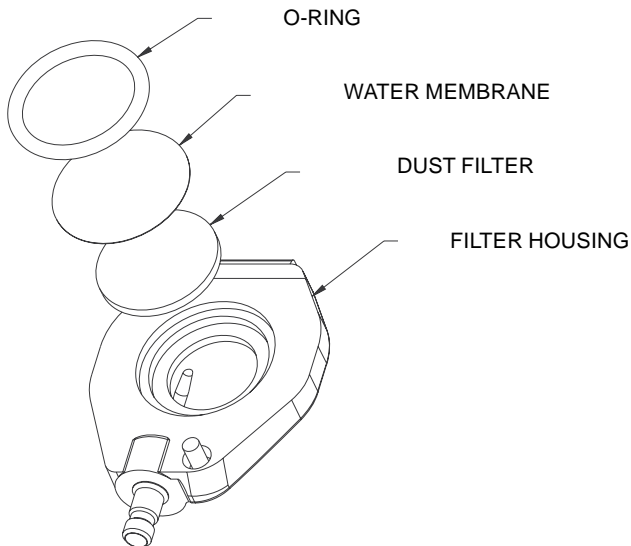

Figure 23:
5. Install the new water filter in the filter housing recess (see Figure 23).